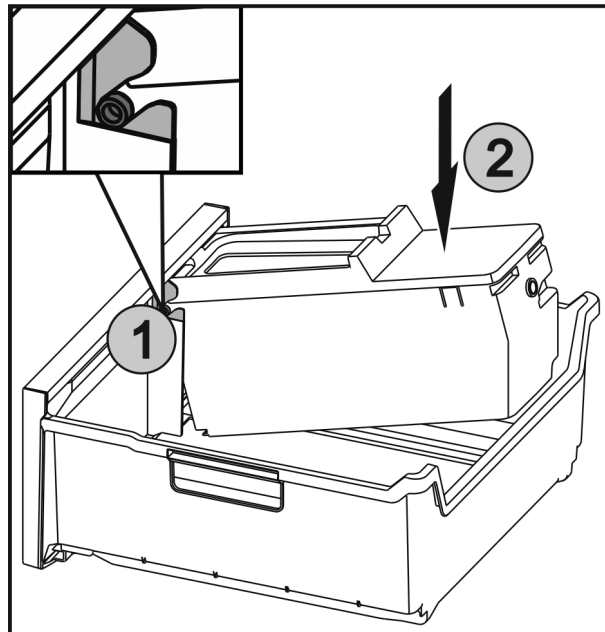

Fig. 57
- Insert the axles Fig. 57 (1) on the EasyTwist-Ice in the guides and push the rear side Fig. 57 (2) until the lug engages.